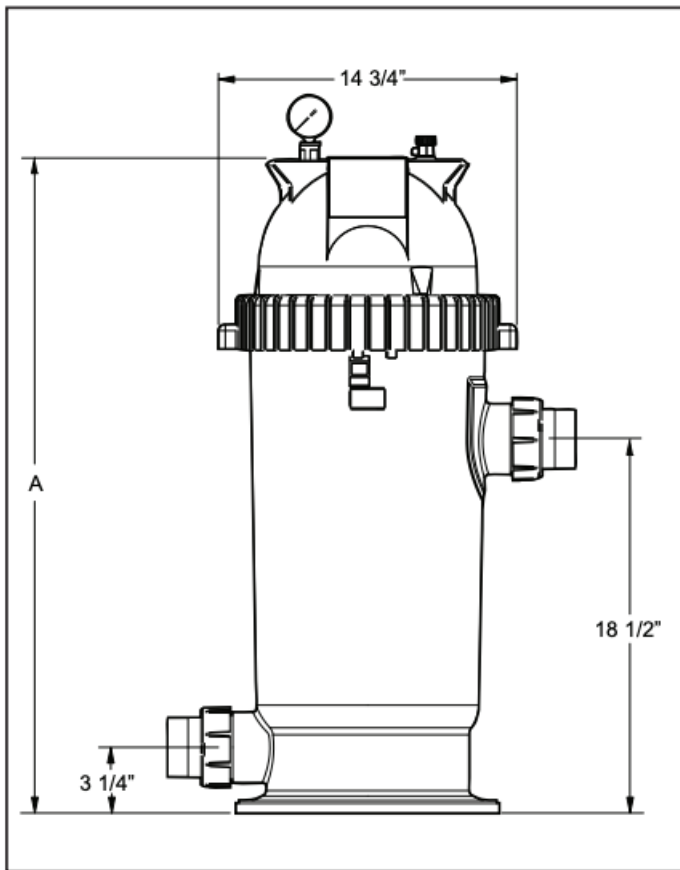

Figure 7. Dimensions, CS Cartridge Series Filter
6. Check breather tube for obstructions or debris. If necessary, remove the breather tube and flush with running water until the obstruction or debris is cleared. See Figure 7.